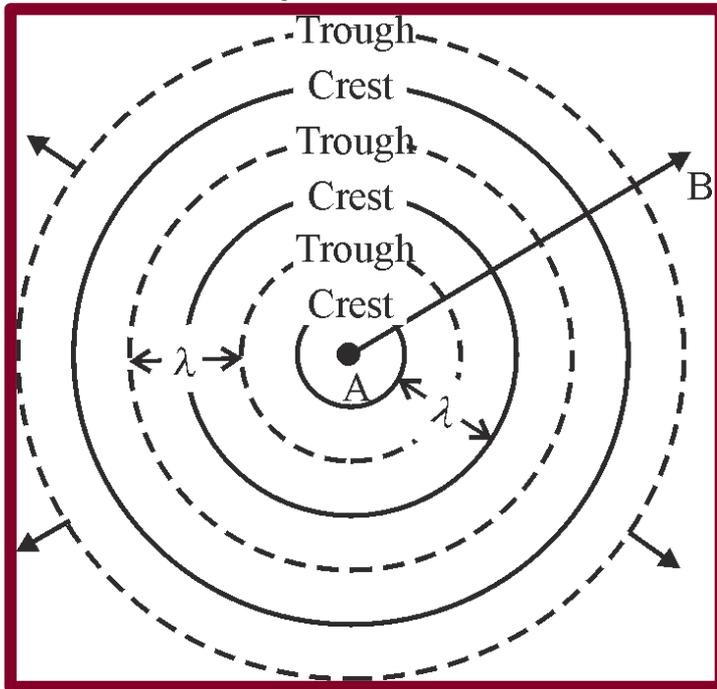

Figure 1
- The solid circles in Figure 1 indicate the wave *crests*—maximum displacements up (+amplitude); the dashed circles indicate the wave *troughs*—maximum displacements down (-amplitude).
- Dichroic materials (polarizers/analyzers) selectively *absorb* components of E -field vibrations along a given direction and largely *transmit* the components of the E -field vibration perpendicular to the absorption direction. Figure 1.